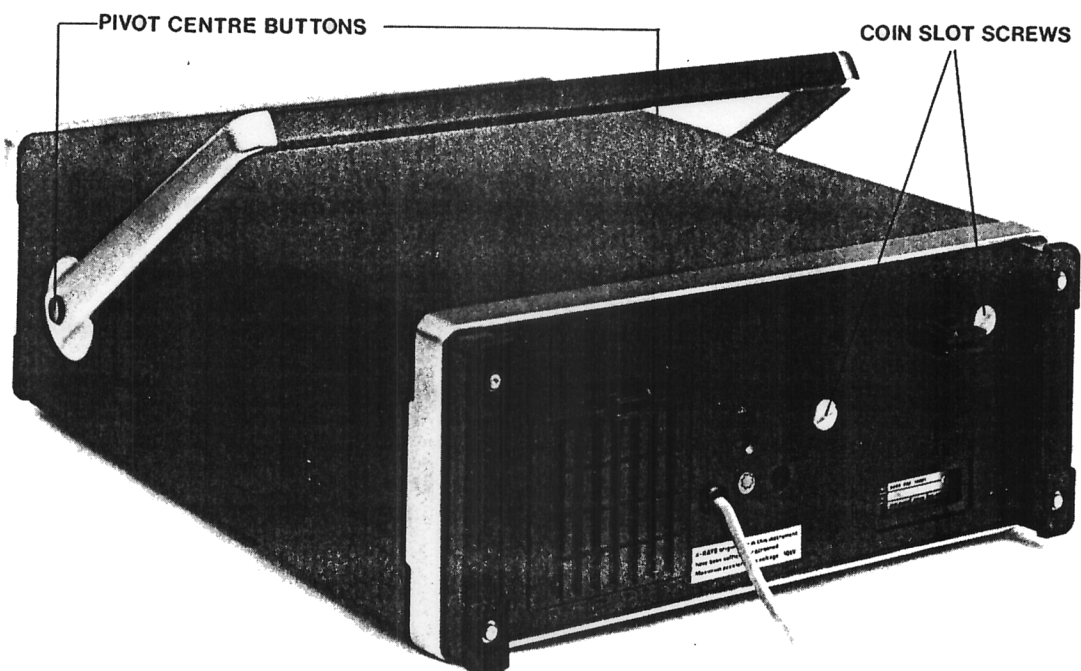

Fig. 3.20. Removing the instrument covers.
- hinge the carrying handle clear of the front cover; to this end, push both pivot centre buttons (Fig. 3.20).